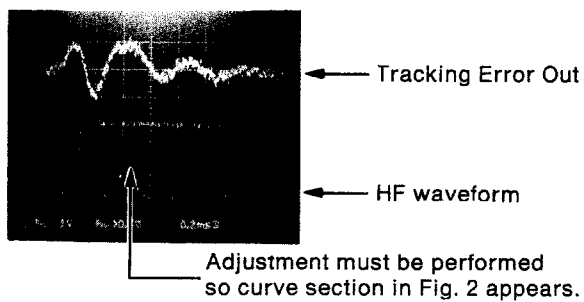

Fig. 2
4. Push the **POWER** button to switch the power on and **PLAY** the first item on the test disc, and then push the **PAUSE** button. Now observe the waveforms for **HF** and **TE** with triggers applied from the **THLD** test terminal (TP52-6) pin. At this point, adjust the potentiometer (P56) so that a kick pulse waveform of about 1 to 1.3 tracks as shown in Fig. 2 below is obtained.